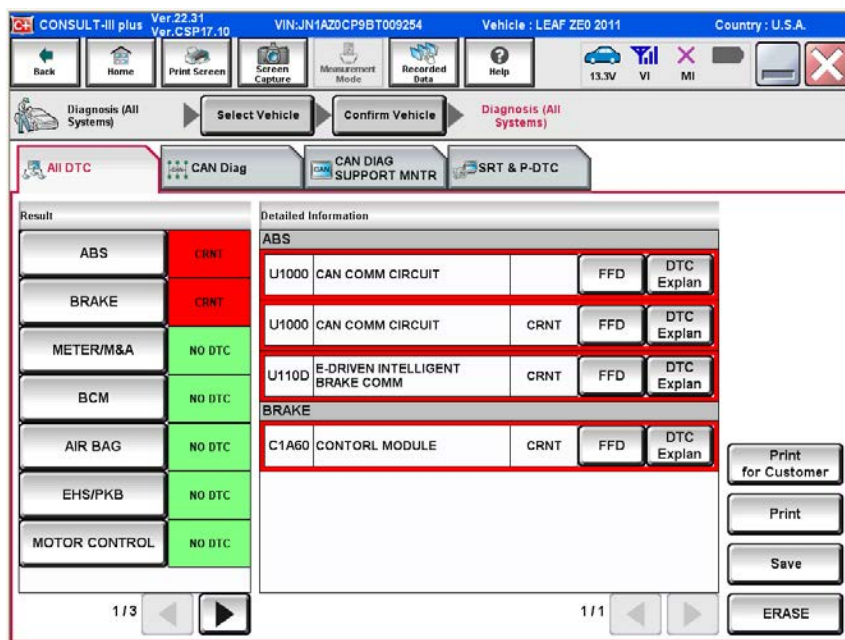

Figure 29
34. To clear any remaining DTC's (as shown in Figure 29):